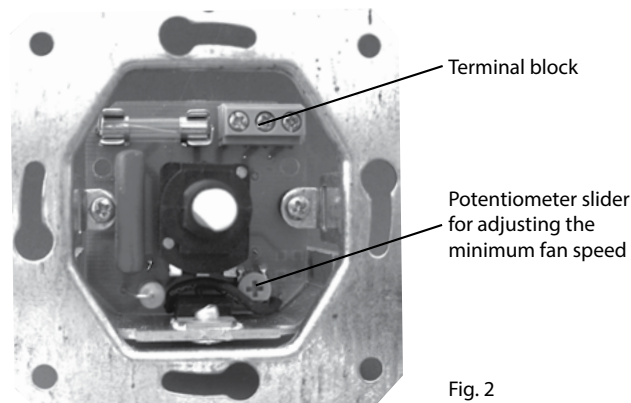

Fig. 2
- Install the controller in the mounting box so that the terminal block (see Fig. 2) is located on top, and fix it with screws.
- Using a screwdriver with an insulated handle, rotate the potentiometer slider (see Fig. 2), bringing the fan speed to the minimum.